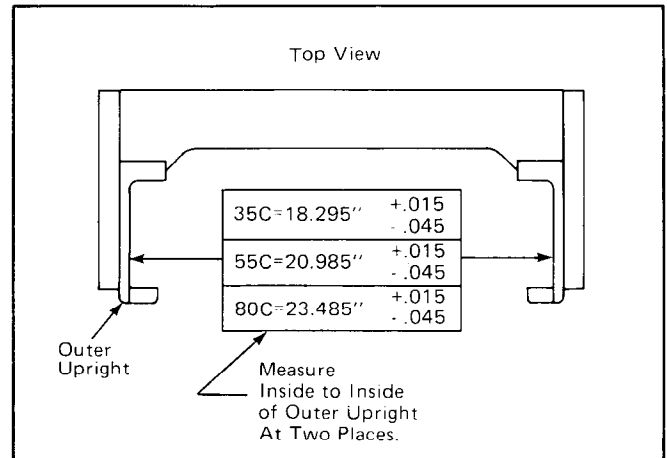

Figure 3. Dimensional Inspection.
3. The measurement shown in Figure 3 should be taken after welding and cooling the mast. This dimension must be maintained for the uprights to slide together.